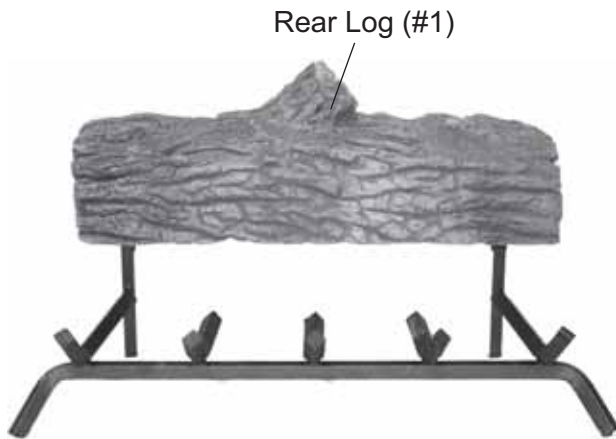

Figure 20 - Centering Rear Log (#1) on Grate Bars
2. Center rear log #1 on grate bars and flush with rear of the grate. *See Figure 20.*